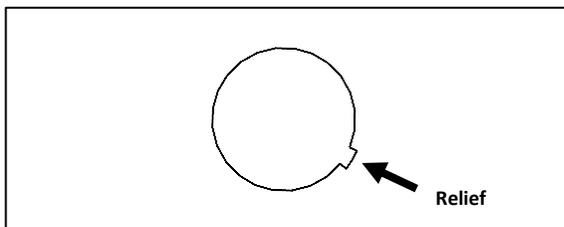

Figure 18: Cutout with Relief
24.  Install the (6) PARKING SENSOR RETAINERS [301923] by orienting the tab to fit in the relief cutout on the bumper. Ensure the tabs on the retainer are fully extended. **See Figure 18.**